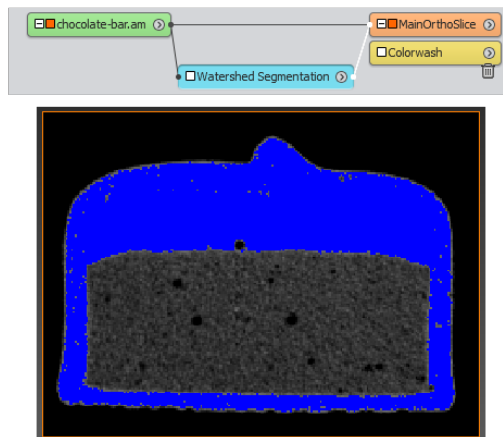

Figure 6.76: The *Watershed Segmentation* wizard at step 6.
- You can use 1041-1910 as range here (see Figure 6.76). The mousse area should be avoided as much as possible.